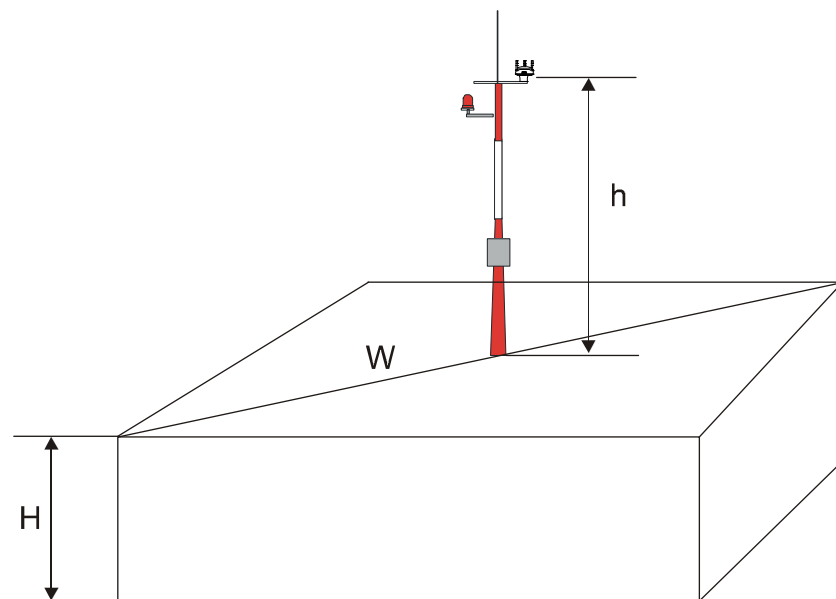

Figure 10 Recommended Mast Length on Top of a Building
The recommended minimum length (marked with the letter h in Figure 10 on page 29) for the mast that is installed on top of a building is 1.5 times the height of the building (H). When the diagonal (W) is less than the height (H), the minimum length of the mast is $1.5 W$.